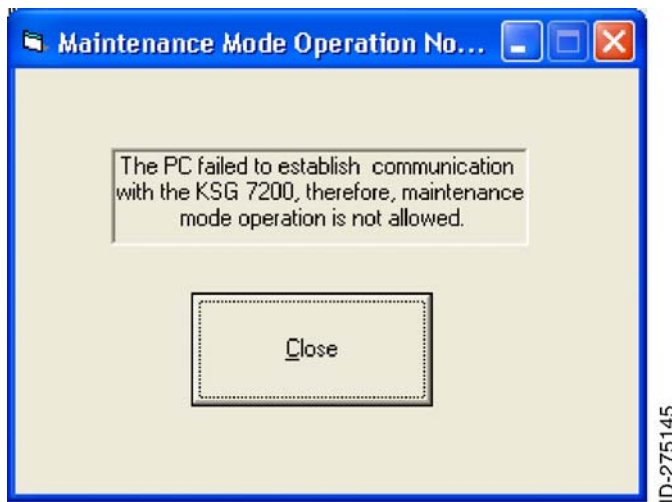

Figure 3. (Sheet 1 of 1) Maintenance Mode Operation Not Allowed Window
- (a) If a communication problem is encountered, the Maintenance Mode Operation Not Allowed window will appear as shown in Figure 3. If this occurs, make sure that the KSG 7200 is powered, the RS-232 cable is properly connected and that the correct COMM port is selected on the PC. If that fails to resolve the problem, cycle power to the KSG 7200.